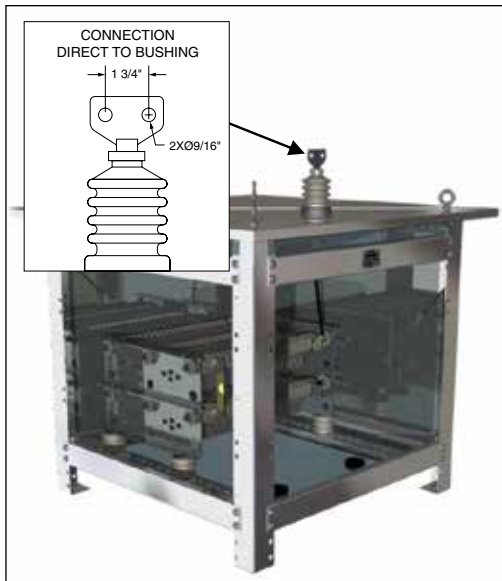
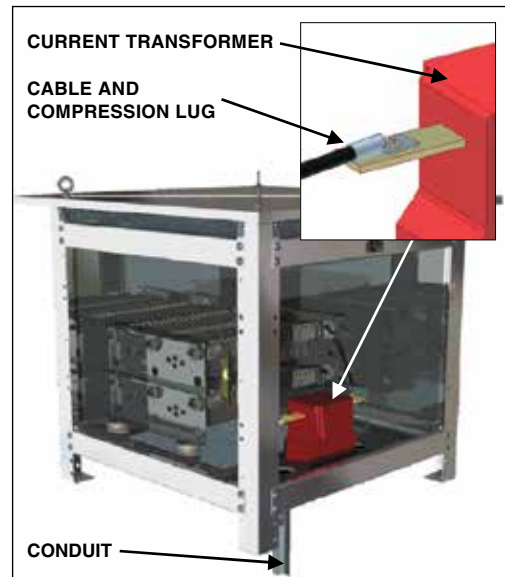

Figure 1: NEMA two-hole pad
Figure 4: Primary of current transformer
1. The connection is made directly to a top-mounted entrance bushing. The bushing has a NEMA two-hole pad-type connector. (See Figure 1.)
4. The connection is made directly to the primary terminal of the current transformer which is mounted inside the enclosure. This terminal will be tagged "NEUTRAL" and requires a customer-supplied lug and bolt. The other primary terminal of the current transformer has been factory wired to the resistive element. The neutral lead usually enters from the bottom through conduit. (See Figure 4.) Sometimes the current transformer is factory wired to a top-mounted entrance bushing, in which case the connection is the same as the first example above. (See Figure 1.)